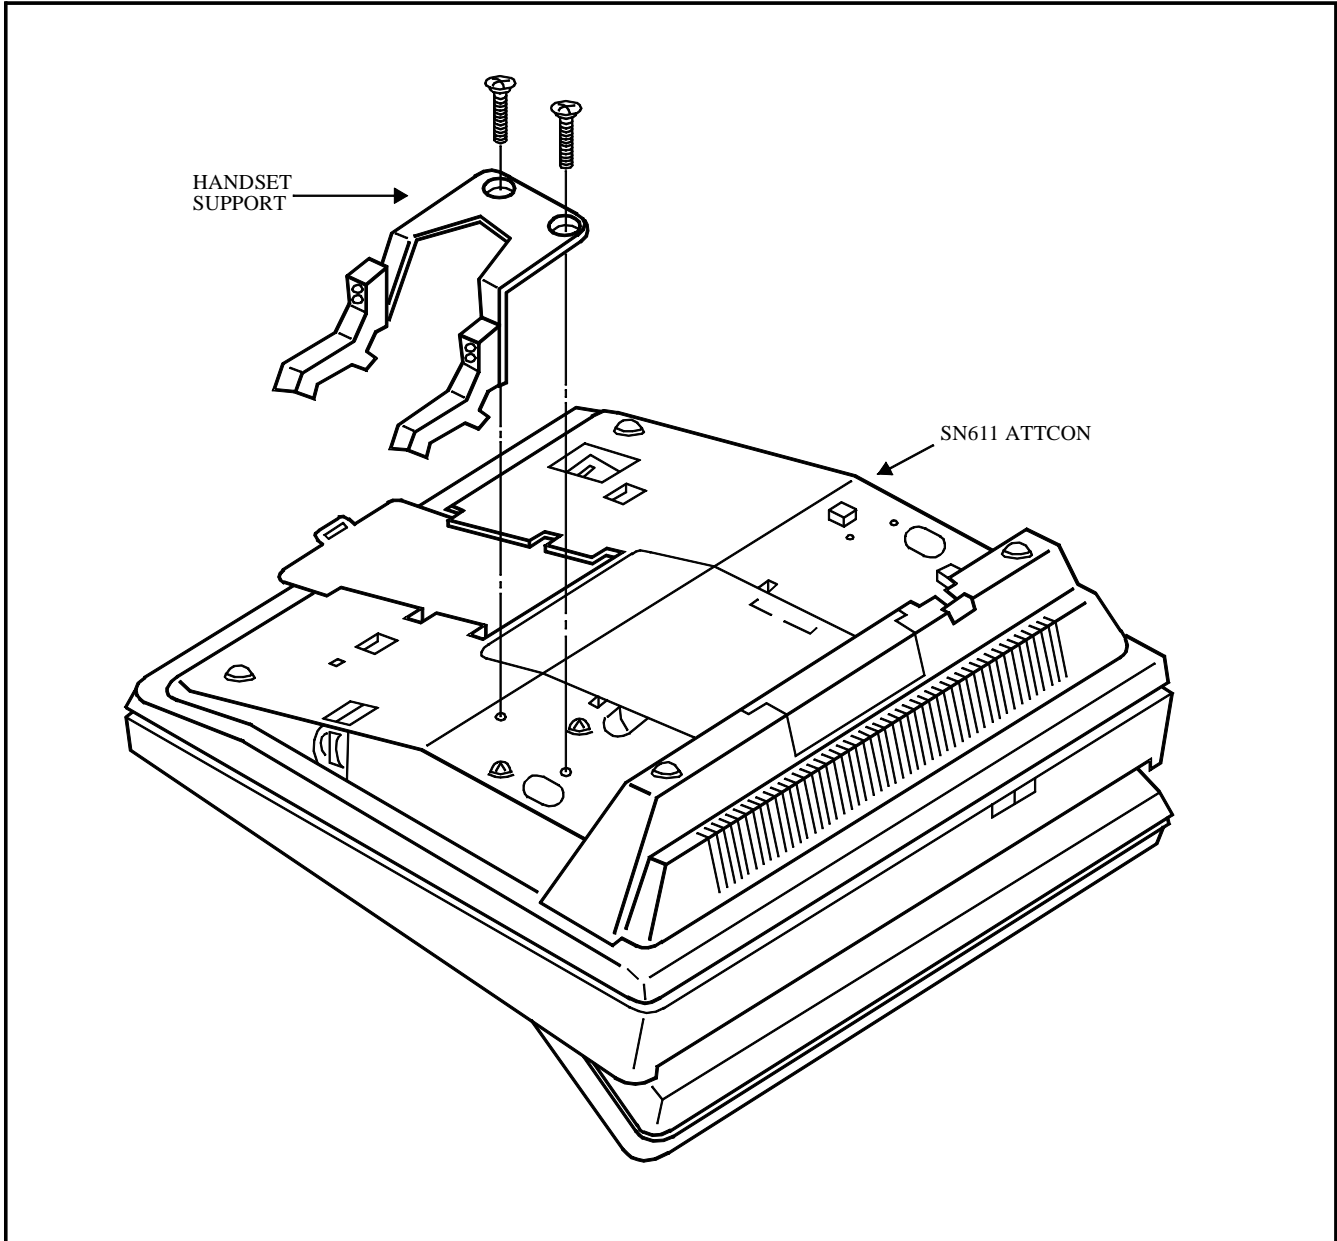

Figure 004-4: Mounting of Handset Support to SN611 ATTCON
- (1) Screw the handset support onto the bottom of the console as shown in Figure 004-4.